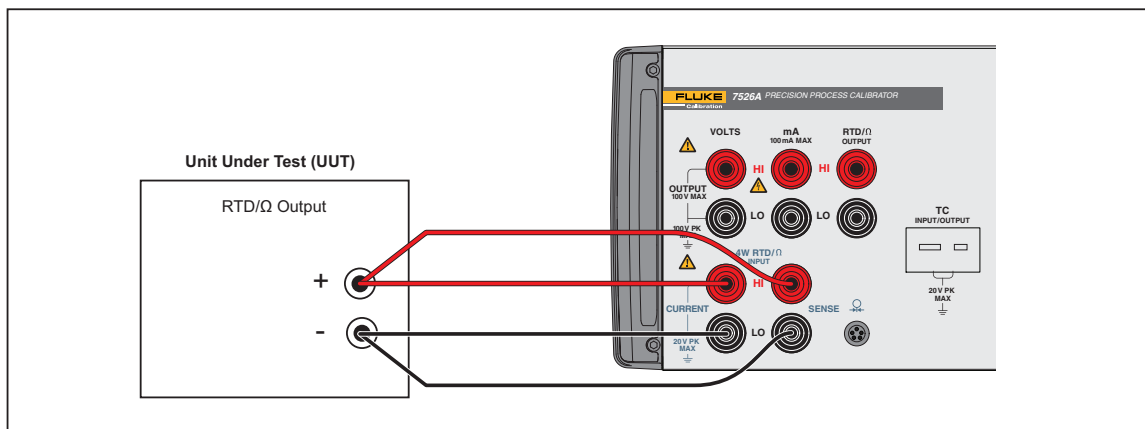

Figure 2-3. RTD/ Ω Input Connection
4. Connect the UUT to the 4-wire RTD/ Ω input terminals of the Product as shown in Figure 2-3.